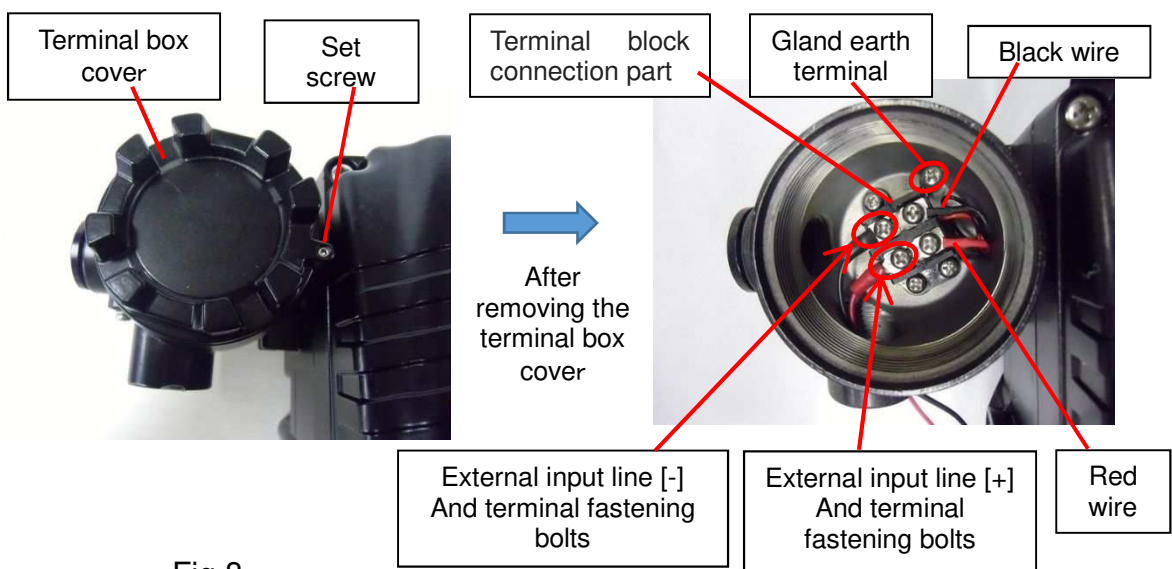

Fig.8
*Terminal wiring method (See Fig.8)
- ① Remove the set screw of the terminal box (Use the hex wrench) and remove the terminal box cover.
- ② Please connect the positive terminal of the terminal block located in the terminal box to the positive line of external input line. (In case of negative terminal, please connect the negative terminal of the terminal block located in the terminal box to the negative line of external input line). To protect the positioner, earth the gland earth terminal. When connecting, please tighten the terminal fastening firmly so that there is no connection failure.
- ③ After connecting the external line, tighten and fix the set screw after closing the terminal box cover. (Tightening torque: 0.25N · m)